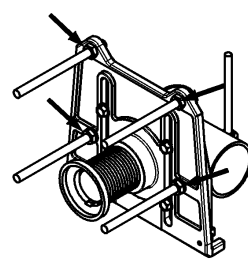

Figure 11b
- For ZF1201, see **Figure 11b**.